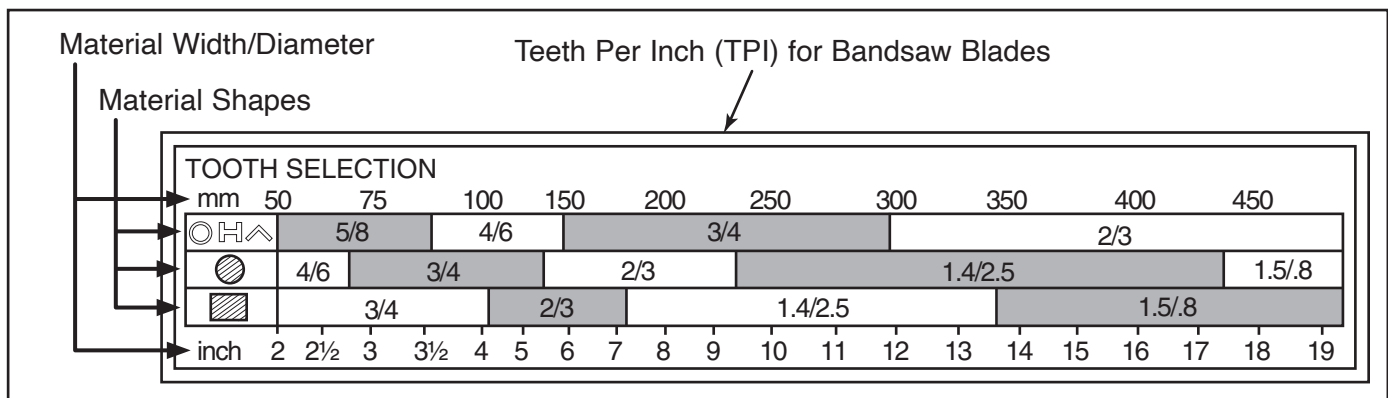

Figure 37. General guidelines for blade selection and speed chart.
2. Refer to "Material Width/Diameter" row of blade selection chart in **Figure 37**, and read across to find workpiece thickness you need to cut.